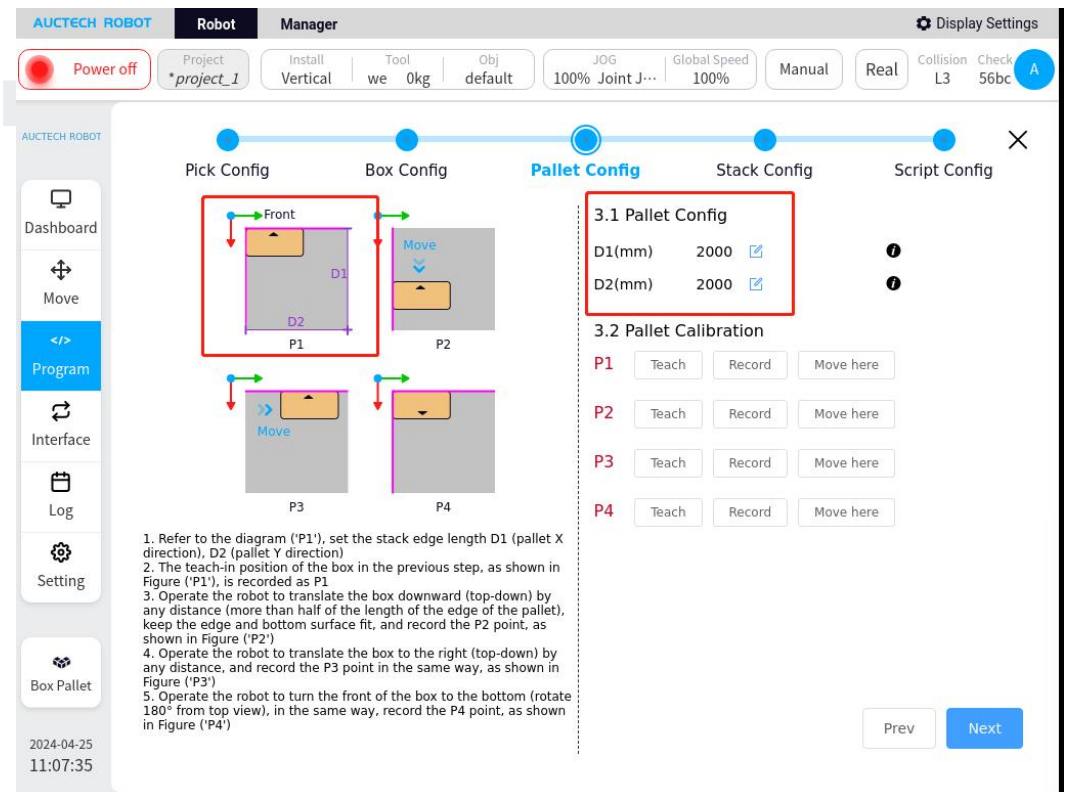

Figure 24
- 1、Enter the “Pallet Configuration” interface, as shown in Figure 24, and fill in the pallet parameters.
Teach P1 point (as shown in the “first point” in Figure 24)